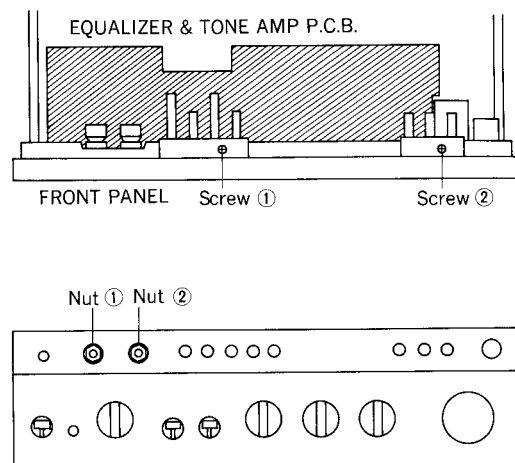

Fig. 2
3. Remove the screws ① and ② at the upper surface of the front panel, as shown in fig. 2.
5. Remove the nuts ① and ②, taking care not to scratch the front panel, with a thin cloth or the like applied to the tip of a 8mm nut driver, and then remove the equalizer and tone amplifier printed circuit board from the chassis.